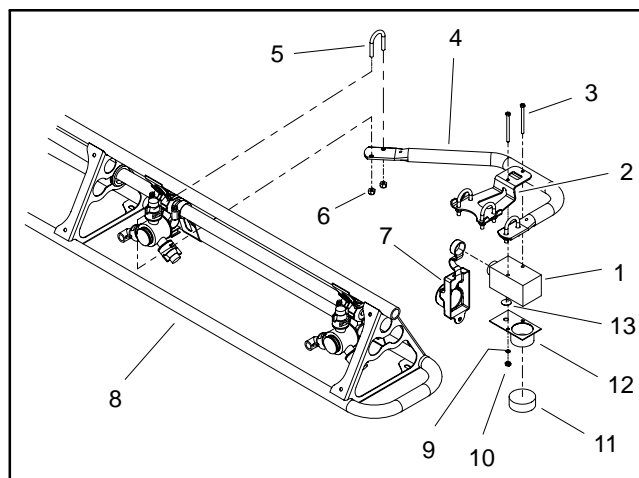

Figure 13
Two (2) identical sonic sensors are used in the Sonic Boom System. The sensors are mounted to the spray booms (Fig. 13). During sprayer operation with the sonic mode switch in the automatic position, the sonic sensors will provide inputs for the electronic control unit (ECU) to keep the booms at a constant distance from the ground.